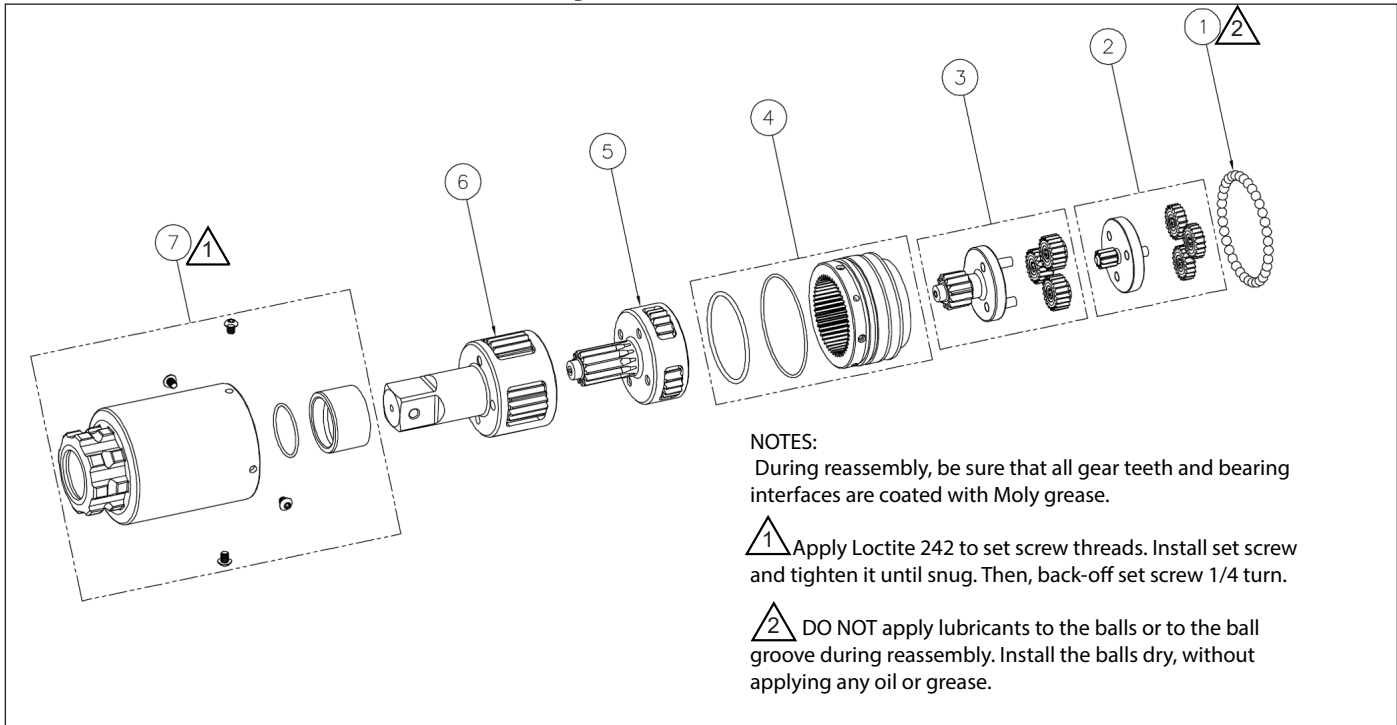

Figure 11: TW2000SR Gearbox Assembly
9.5.1 Table of Parts (Figure 11)